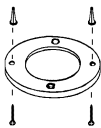
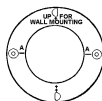

FIGURE 1
FIGURE 2
3. After selecting the proper smoke alarm location as described in Section 1, attach the mounting plate to the ceiling as shown in Figure 1. For wall mounting see Figure 2. Place mounting plate on the wall. Be sure the "UP FOR WALL MOUNTING" text and arrow are facing up. Use the screws and anchors provided to secure the mounting plate (use 3/16" drill bit for anchor holes).
To replace the battery, remove the alarm from the mounting plate by rotating the alarm in the direction of the "OFF" arrow on the cover (see Section 3, Figure 1).